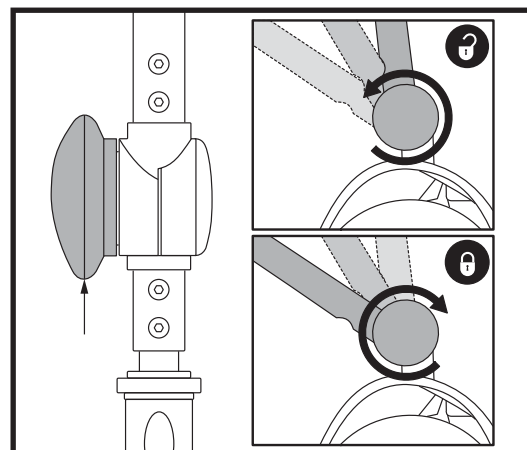

Figure 23. Tiller Adjustment Knob
## TILLER ANGLE ADJUSTMENT (See figure 23)
1. With the seat and battery pack removed (see Disassembly Procedures on previous page), lower the tiller and tighten the tiller adjustment knob. **See figure 23.**